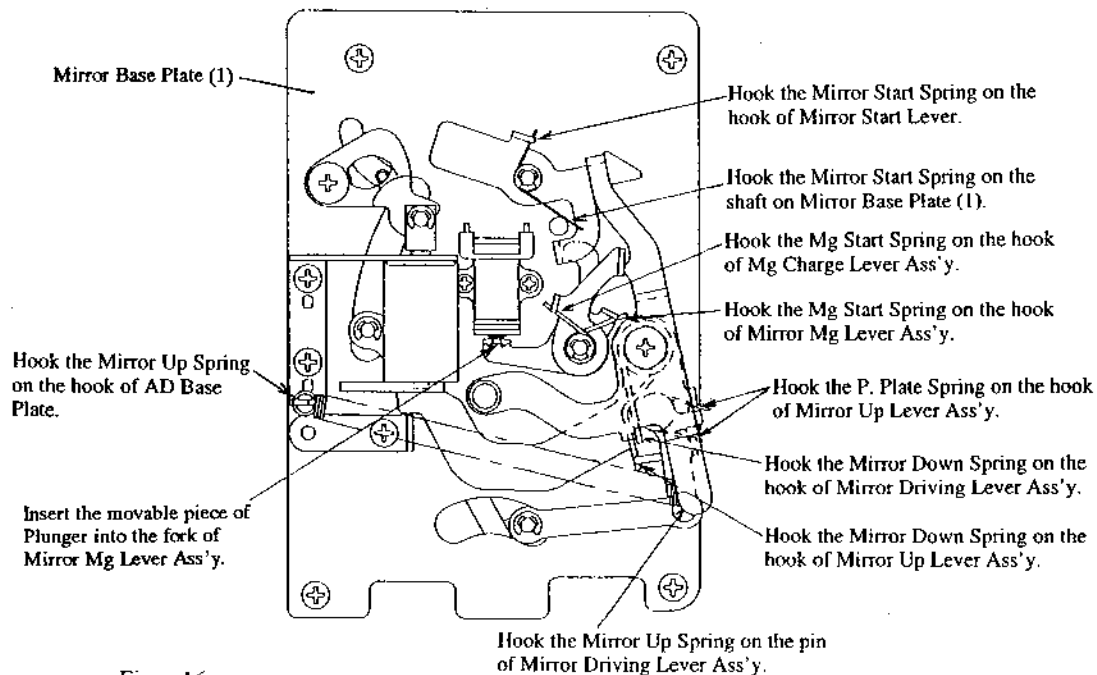

Fig. 16
- b) When installing mechanical parts of the Mount Base Ass'y, take precautions as instructed in Fig. 16.